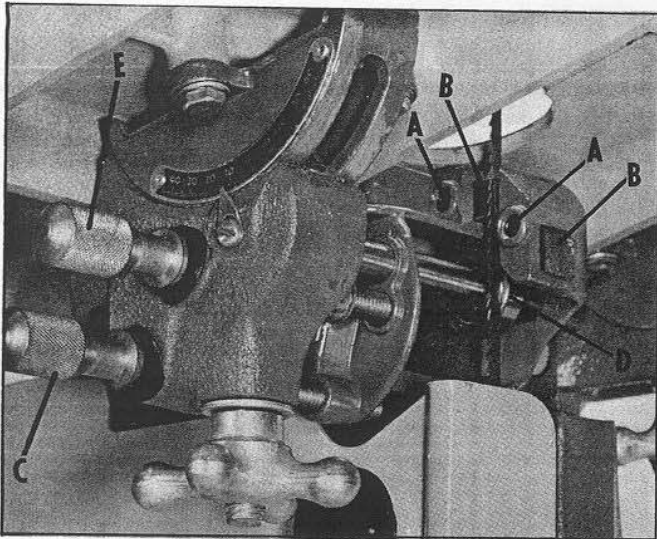

Fig. 18
1. Loosen the two screws (A) Fig. 18, and move the guides (B) as close as possible to the side of the blade being careful not to pinch the blade. Then tighten screws (A).
2. The front edge of the guide blocks (B) should be adjusted so they are just behind the "gullets" of the saw teeth by turning the knurled knob (C) Fig. 18.
3. The lower blade support bearing (D) Fig. 18, should be adjusted so it is about  $1/64''$  behind the back of the blade by turning the knurled knob (E).